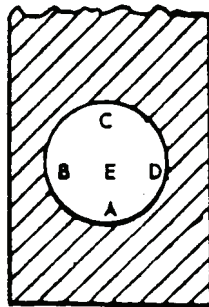

Figure 1. Parallelism test points.
(1) If contact is possible, perform parallelism tests for TIs with a 0 to 1 inch range as listed in (2) through (6) below.
(2) Position ball micrometer tester small ball (0.1875 in.) between the TI, anvil and spindle measuring faces at point A as shown in figure 1.
(11) Place ball micrometer tester small ball (0.1875 in.) between gage block top gaging surface and TI spindle face at point A as shown in figure 1.
(12) Adjust ratchet and micrometer as necessary to obtain a measurement of the ball diameter. Note indication to the nearest 0.0001 inch (by estimation).
(13) Repeat (11) and (12) above for points B, C, D, and E, figure 1.
(14) Reset micrometer to increase anvil to spindle dimension by $\frac{1}{16}$ th inch. Replace ball micrometer tester small ball with large ball (0.250 in.) and repeat (11) through (13) above.
(15) For 0.001 inch readout micrometer, verify that the five readings have a maximum difference of one-half of a minor division for each ball. Use tolerances in table 4 for 0.0001 inch readout micrometers.